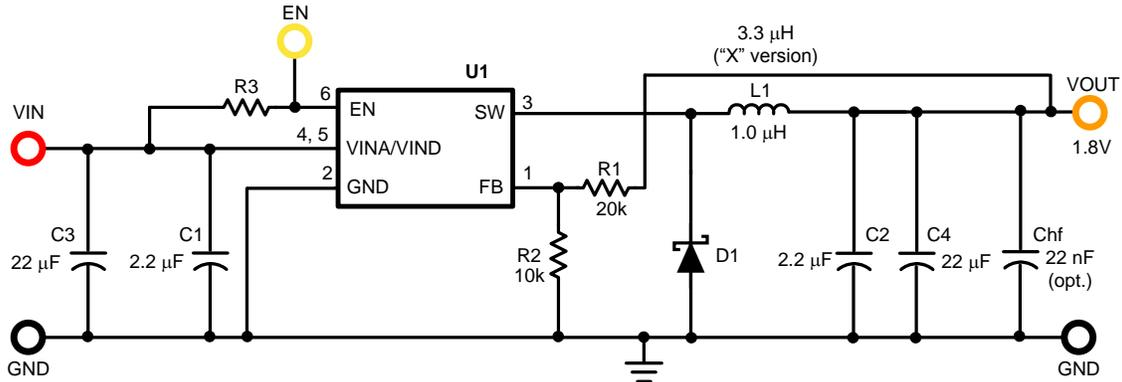

Figure 30. Typical Application Schematic
The LMR10530 is a constant frequency PWM buck regulator IC that delivers a 3-A load current. The regulator is available in preset switching frequencies of 1.5 MHz or 3 MHz. This high frequency allows the LMR10530 to operate with small surface mount capacitors and inductors, resulting in a DC/DC converter that requires a minimum amount of board space. The LMR10530 is internally compensated, therefore it is simple to use and requires few external components. The LMR10530 uses peak current-mode control to regulate the output voltage. The following description of operation of the LMR10530 will refer to the Figure 30, to the waveforms in Figure 20 and simplified block diagram in Functional Block Diagram. The LMR10530 supplies a regulated output voltage by switching the internal PMOS power switch at a constant frequency and variable duty cycle. A switching cycle begins at the falling edge of the reset pulse generated by the internal oscillator. When this pulse goes low, the output control logic turns on the internal PMOS power switch. During this on-time, the SW pin voltage ( $V_{SW}$ ) swings up to approximately  $V_{IN}$ , and the inductor current ( $I_L$ ) increases with a linear slope.  $I_L$  is measured by the current sense amplifier, which generates an output proportional to the switch current. The sense signal is summed with the regulator's corrective ramp and compared to the error amplifier's output, which is proportional to the difference between the feedback voltage and  $V_{REF}$ . When the PWM comparator output goes high, the internal power switch turns off until the next switching cycle begins. During the switch off-time, the inductor current discharges through the catch diode D1, which forces the SW pin to swing below ground by the forward voltage ( $V_D$ ) of the catch diode. The regulator loop adjusts the duty cycle (D) to maintain a constant output voltage.